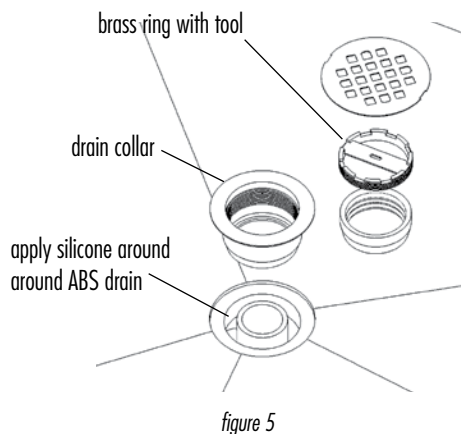

figure 5
8. Apply a generous bead of clear silicone around the shower pan drain opening and slip the drain collar into position (fig. 5). Make sure the ABS pipe is still centered.